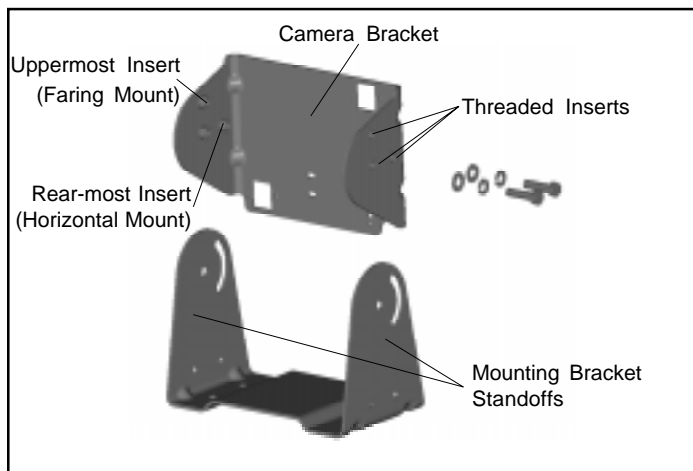

Figure 14 Camera Mounting Bracket Threaded Inserts
1. Choose the threaded insert on the camera bracket that is appropriate for the mounting (horizontal or vertical) that you have chosen. Refer to Figure 14.
2. Position the camera bracket between the standoffs of the mounting bracket. Refer to Figures 14 and 15.